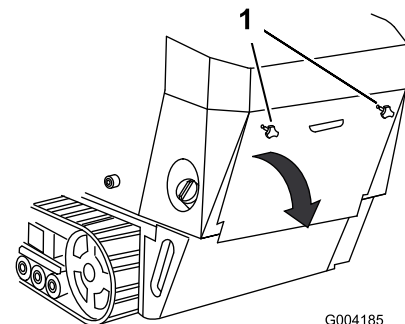

Figure 24
1. Unscrew the 2 hand knobs securing the rear access cover to the machine (Figure 24).
2. Tilt the rear access cover down and remove to access the internal components (Figure 24).